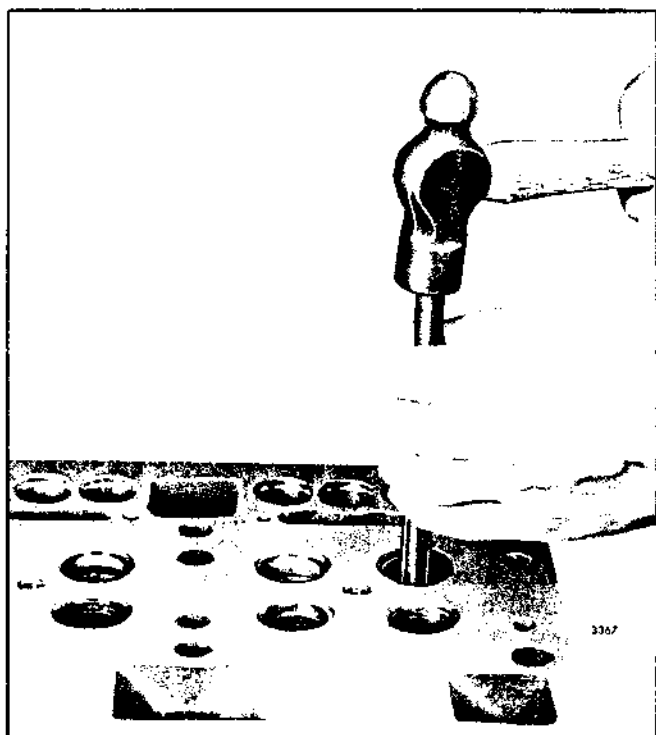

Fig. 5 - Removing Valve Guide
2. Drive the valve guide out of the cylinder head with valve guide remover J 6569 (two valve head) or J 7775 (four valve head) as shown in Fig. 5.